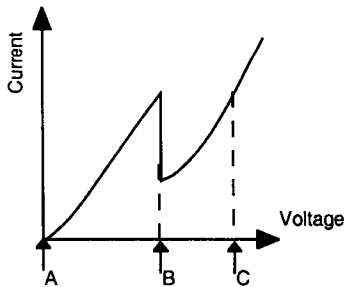

Figure 5.2: Current-voltage characteristics of RTD
- i) Fig. 2 gives the current-voltage characteristics of a GaAs/AlGaAs resonant tunnelling diode. Sketch the energy band diagram corresponding to the bias points A, B and C of figure 5.2. [2]